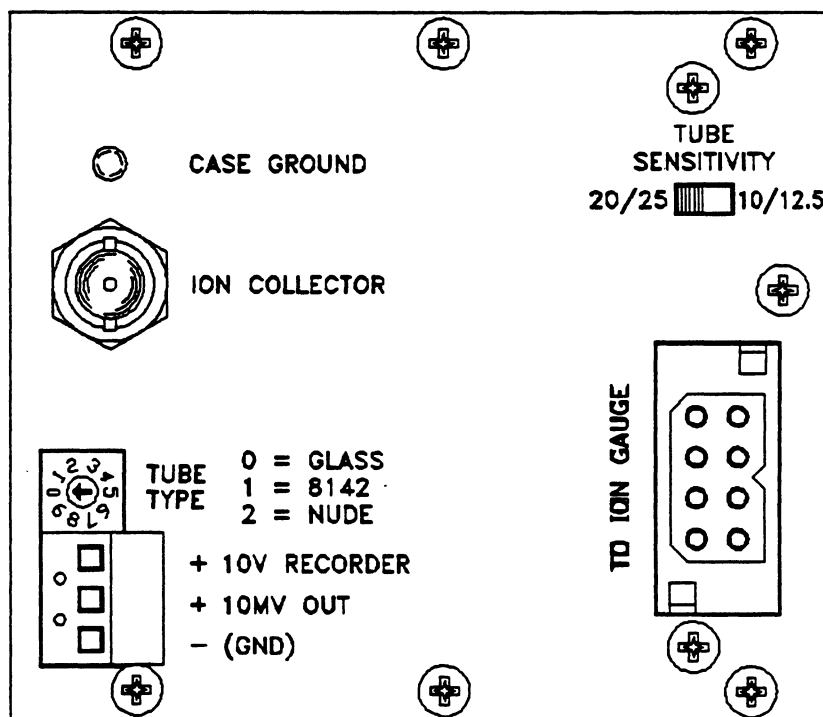

Fig. 3.9 - Rear Panel of the Resident 3D Hot Cathode Gauge Module
The rear panel of the 3D hot cathode resident module with resistive (I² R) degas is shown in Fig. 3.9. This module occupies 4 module slots. The module must be within 10' (100' with a special cable) of the sensor (gauge tube). No station should be numbered higher than #5.
The rear panel of the 3E hot cathode resident module with electron beam (EB) degas is shown in Fig. 3.9. This module occupies 4 module slots. The module must be within 10' (100' with a special cable) of the sensor (gauge tube). No station should be numbered higher than #5.